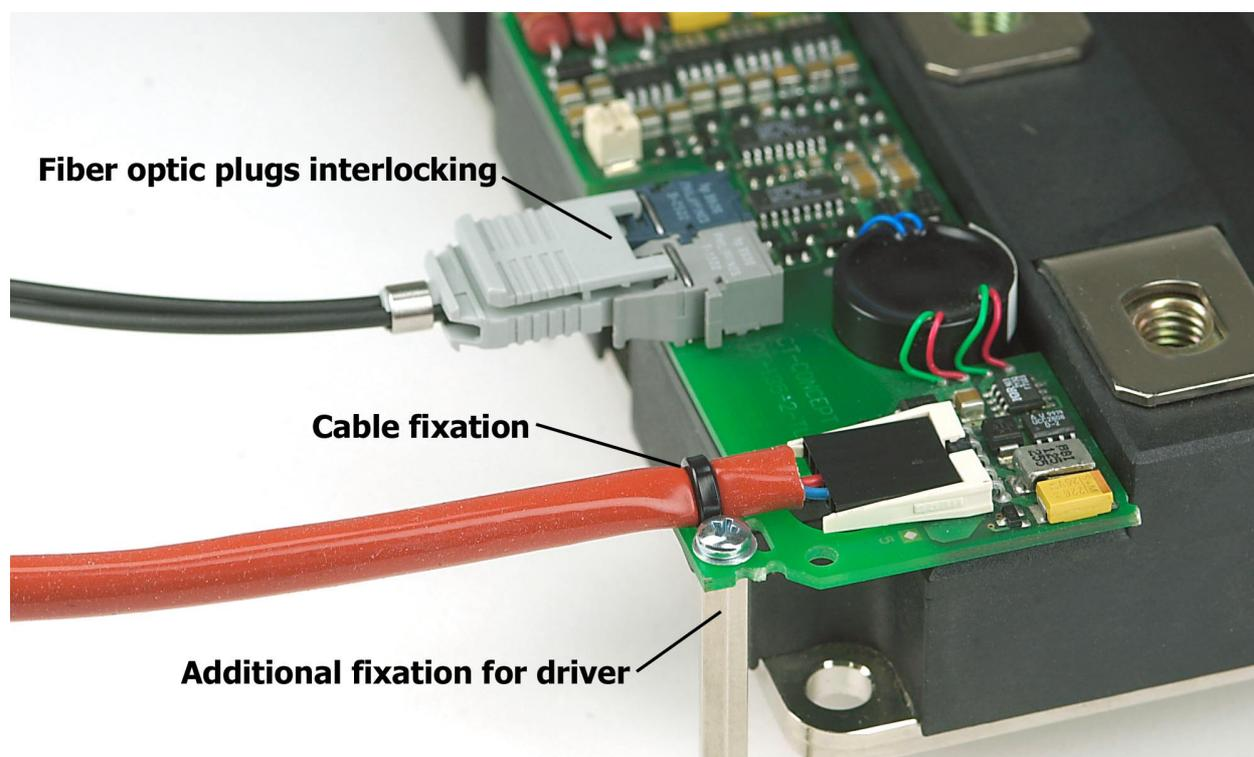

Fig. 12 Additional measures for fixing driver and power supply cables , and version of interlocking fiber optic links
- a) Screw fitting of the driver board to the cooler (see Fig. 12)
Basically, the power-supply plug provides a mechanical interlock. If desired, the supply cables could also be fixed at the driver board (see Fig. 12). Furthermore, an interlocking version of the fiber optic links is also deliverable, see Fig. 12.